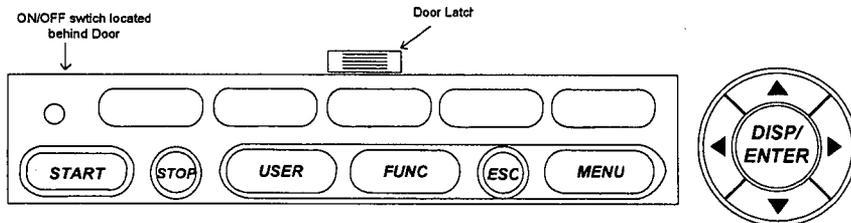

FIGURE 7
- 1.3 Press door latch and open recorder door to access recorder ON/OFF switch per Figure 7.